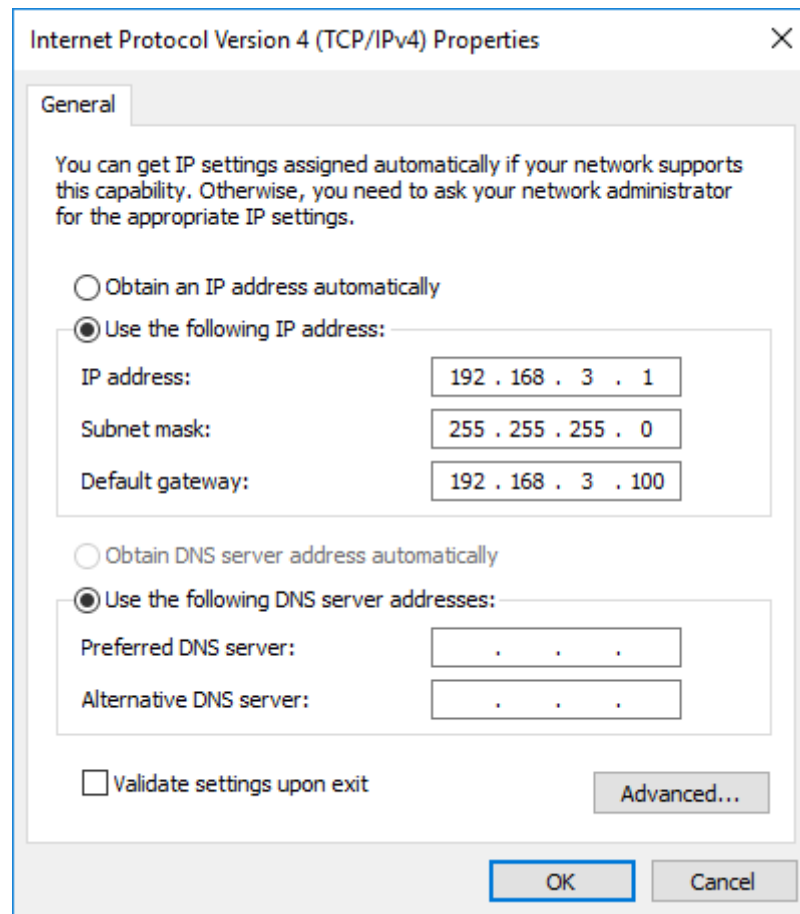

FIGURE 9: IP SETTINGS FOR DIRECT CONNECTION TO THE SENSOR.
STEP 5: Set the settings as indicated in Figure 9 and press OK.